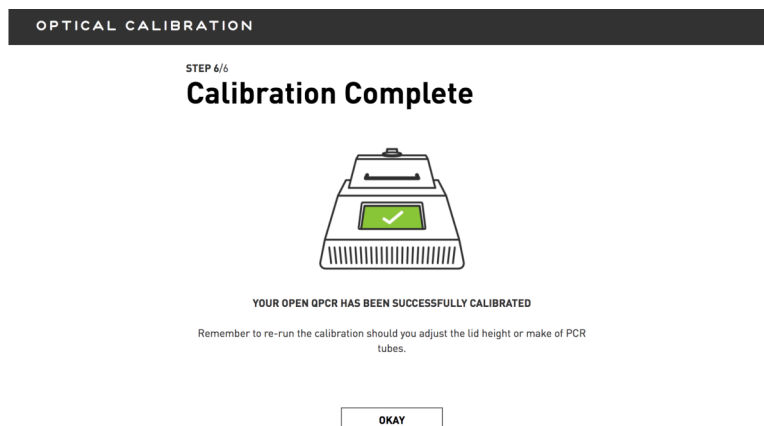

Figure 3.9
9. Following the fluorescein reading, **Calibration Complete** will be displayed on the screen (Figure 3.9). You may now proceed to your experiment setup.